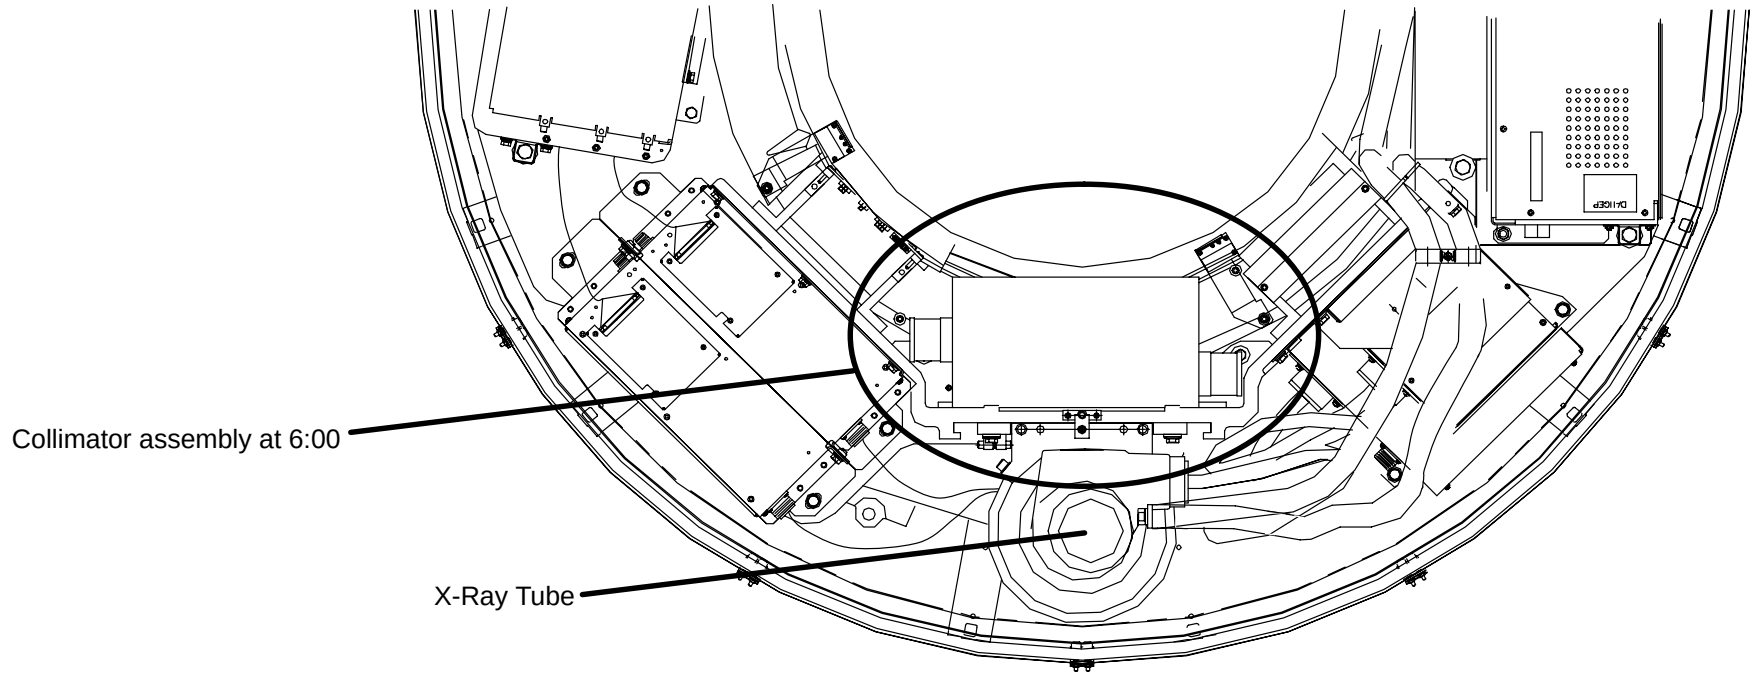

FIGURE 259 Collimator Assembly at 6:00
7. Rotate the Gantry Frame counterclockwise by hand until the Collimator Assembly is at the bottom center (6:00 position). The Scan Frame **cannot** be locked in this position. See Figure 259.